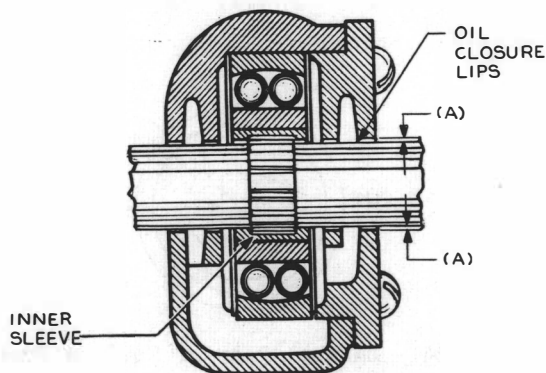

Fig. 26 - Oil Closure Clearance of Bearings
2.43 Oil Closure Clearance: Fig. 26(A) -